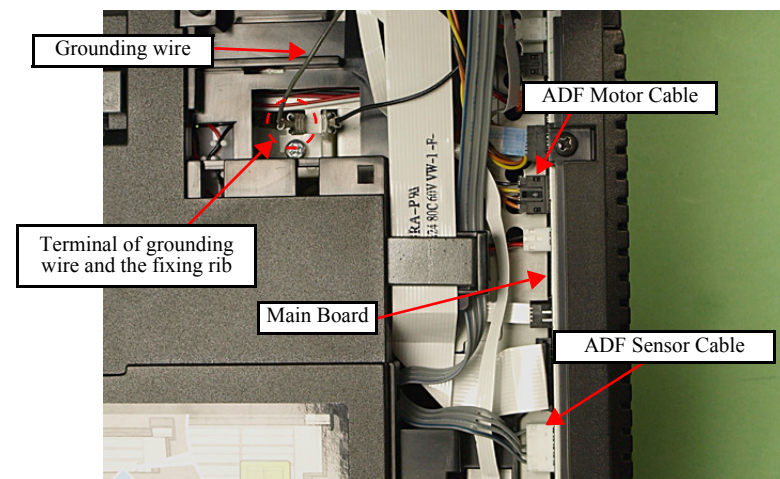

Figure 8-4. Removing the ADF Unit (1)
4. Disconnect the ADF Motor Cable and ADF Sensor Cable from the connectors on the Main Board. (See Fig. 8-4.)
- Insert the terminal of the grounding wire to the end of the rib of the Frame. (See Fig. 8-4.)